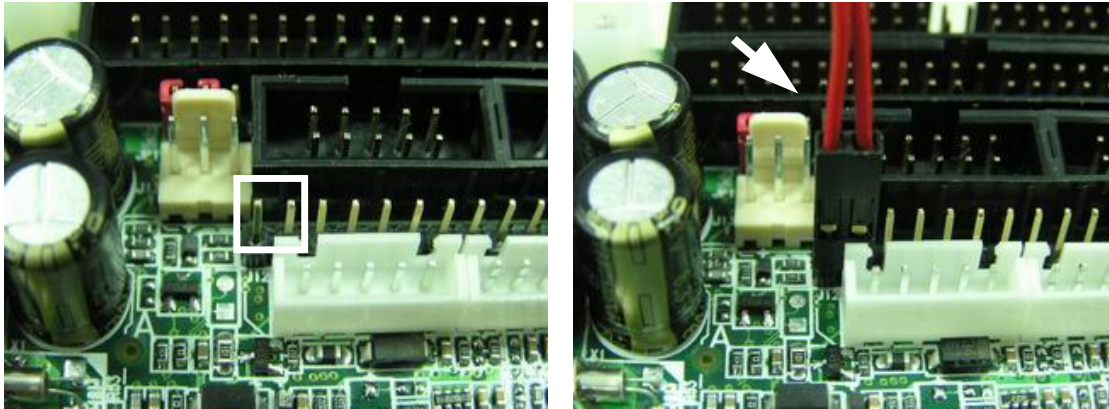

Figure 5-5
Step 5: Connect TOGGLE SWITCH with J14 connector on ROBO-8712E series (Figure 5-5), which is used to power on ATX Power Supply. Generally, the TOGGLE SWITCH is located on the chassis of front panel.